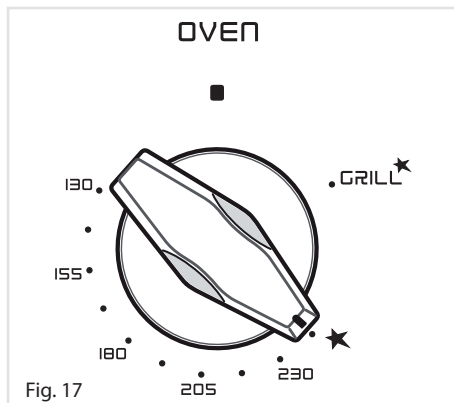

Fig. 17
2. Lightly press and turn the thermostat knob anti-clockwise to max position "★" (fig. 17).